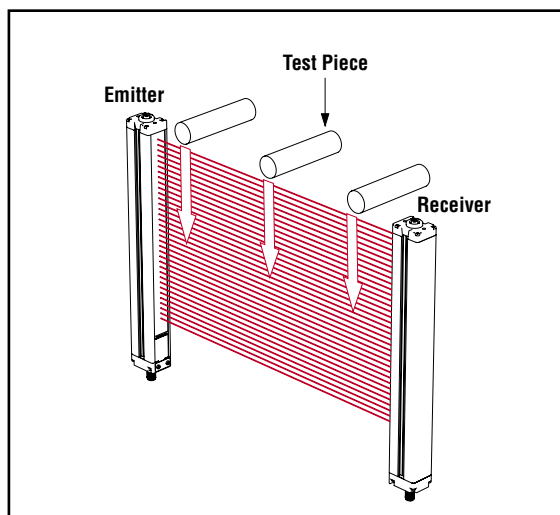

Figure 1. EZ-SCREEN System trip test
- 5b) With the guarded machine at rest, pass the test piece downward through the defined area in three paths:** near the receiver, near the emitter, and midway between them (Figure 1).